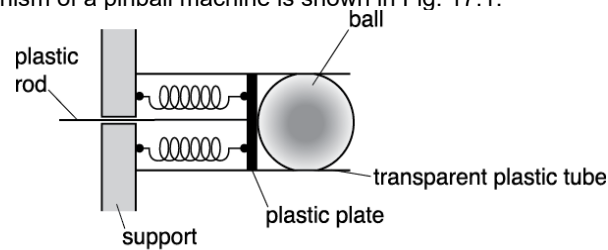

Fig. 17.1
19. The ball-release mechanism of a pinball machine is shown in Fig. 17.1.
Explain why the force constant of the two springs in parallel in Fig. 17.1 is equal to  $2k$ .